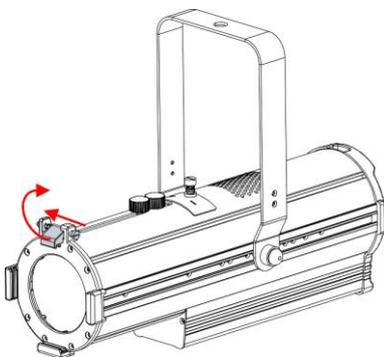

Fig. 08
- 01) Push the **spring-loaded screw (06)** and at the same time lift the **color frame clip (07)** and flip it backwards (see Fig. 08).